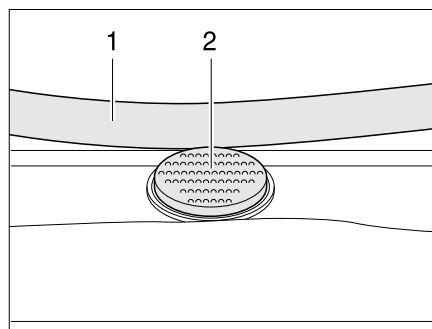

Fig. 91 Safety knob on the Heki skylight
- Press the safety knob (Fig. 91,2) and pull the bar (Fig. 91,1) down with both hands.
- Push the bar upwards with both hands until it is above the safety knob (Fig. 91,2).